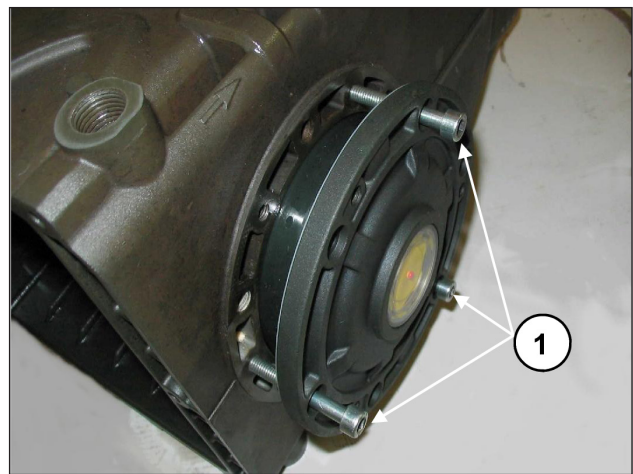

Fig. 8
To facilitate filling of the first section and relative press fitting of the covers on the casing, we recommend using 3 partially-threaded M6 x 40 screws (Fig. 8, pos. ①), then completing the operation with the screws supplied (M6x18).
To transition the two side covers closer to the casing, it is possible to use 3 M6x40 screws for the first positioning phase as indicated in Fig. 8 and the screws provided for final fastening.